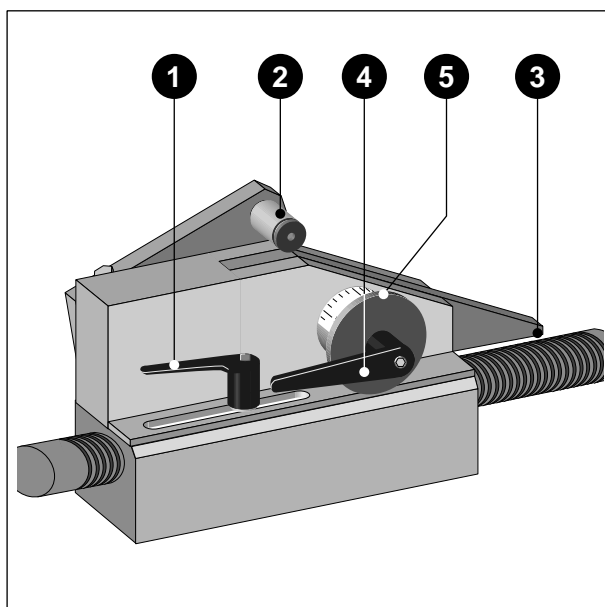

Figure 5-12. Screen lift adjustment
- \* Open the clamping lever 1 (Figure 5-12) and move the wedge to the position where the beginning of the slanting surface is exactly below the roller 2 (as shown in Figure 5-12).